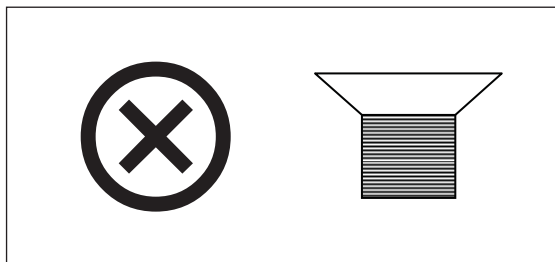

Fig. 8-4: Clamp fastener
1. Place the clamp on the platform, aligning its mounting holes with holes on the platform. Secure the clamp in place using the flat Phillips head screws provided (# S2116-3051, 10 – 24 x 5/16 in). To help you identify the proper screws, (see Fig. 8-4 on p. 44), as 3 different types of screws are shipped with the clamps.